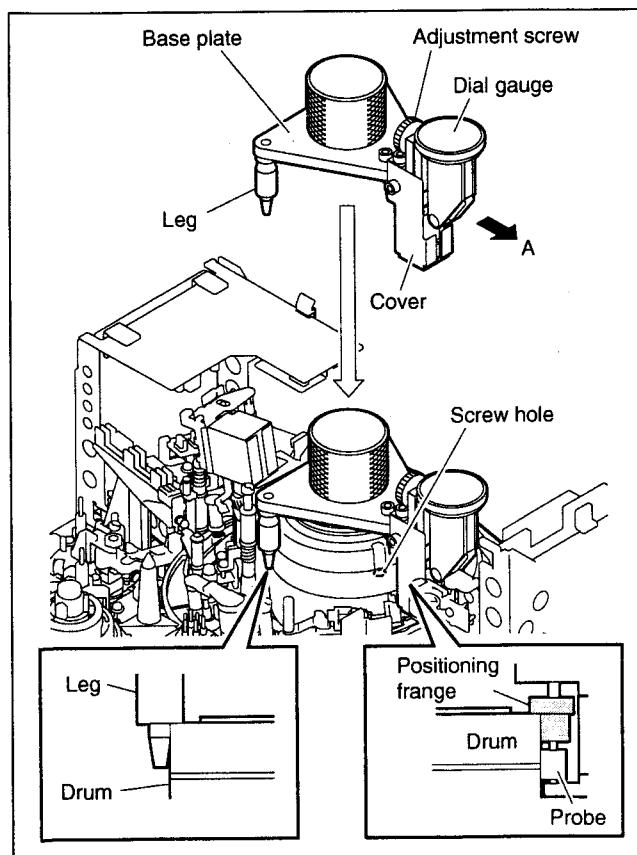

Figure 3. Setting of Head Tip Protrusion Measurement Gauge
2. Clean the probe, positioning flange, and portion touching the drum of two legs. (Refer to Figure 3.)
5. Lower the measurement gauge slowly until the ridges of the two legs and positioning flange touch the upper drum while pushing two legs against the outer circumference of the drum's upper surface (applying force slightly to the measurement gauge in the direction indicated by the arrow). (Refer to Figure 3.)